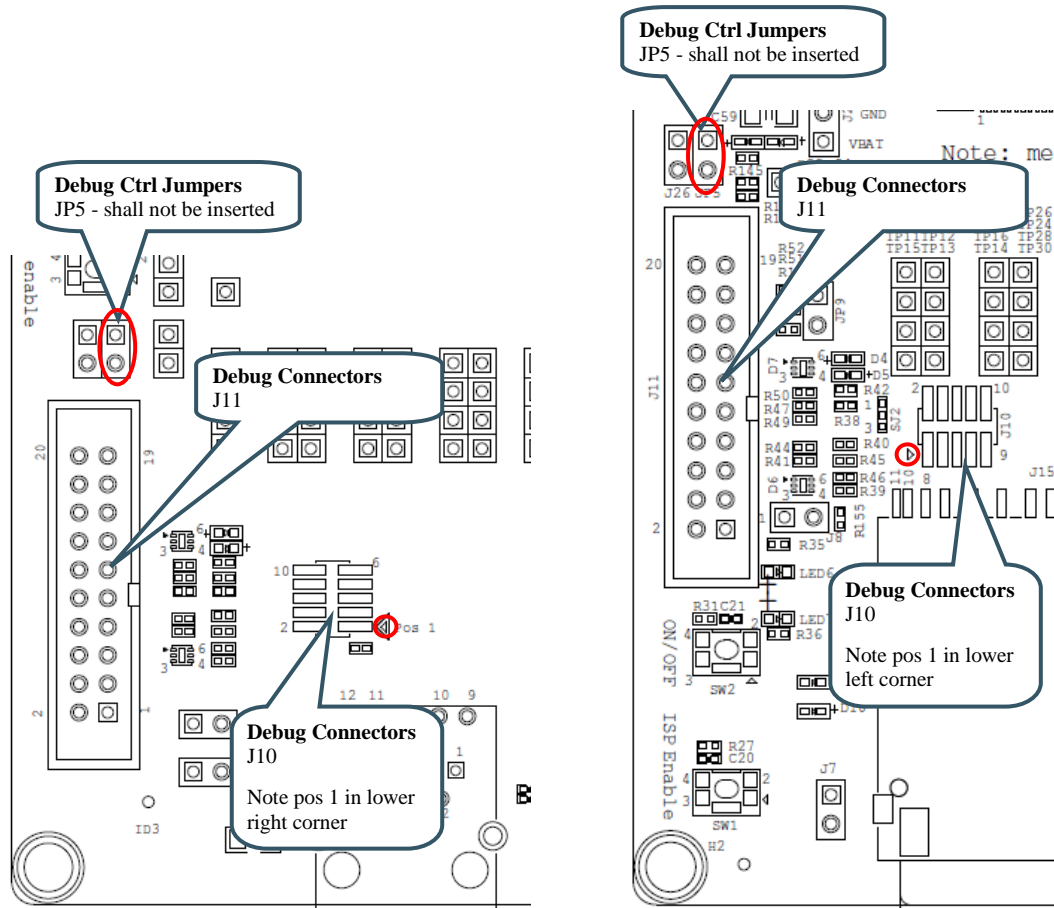

Figure 4 – Debug Interfaces on rev A and rev B1 iMX OEM Carrier board, respectively
- J10 – this is a Cortex Debug connector. It is a 2x5 pos, 50 mil pitch connector without a shroud. Be careful when inserting the debug probe cable. Position 1 is specifically marked on the PCB silkscreen. It is located in the lower right corner, see Figure 4 below. The connector supports both the SWD and JTAG interfaces.